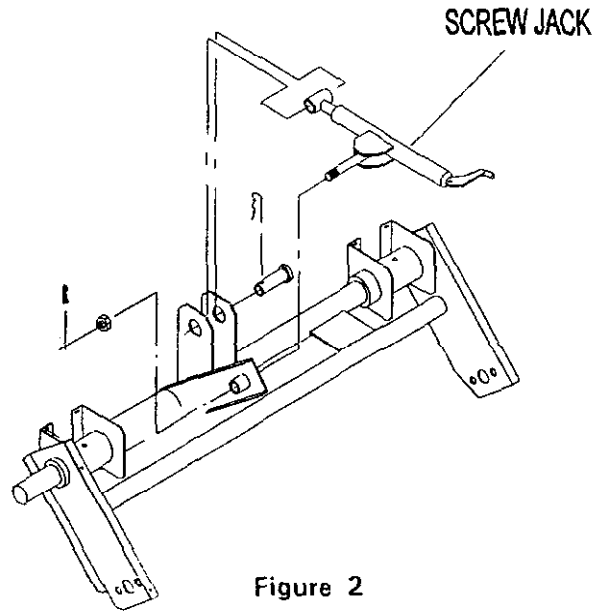

Figure 2
3. (FIG. 2) Install the Screw Jack assembly as shown in the illustration. A hole for the castle nut must be drilled for a cotter pin to secure its position.